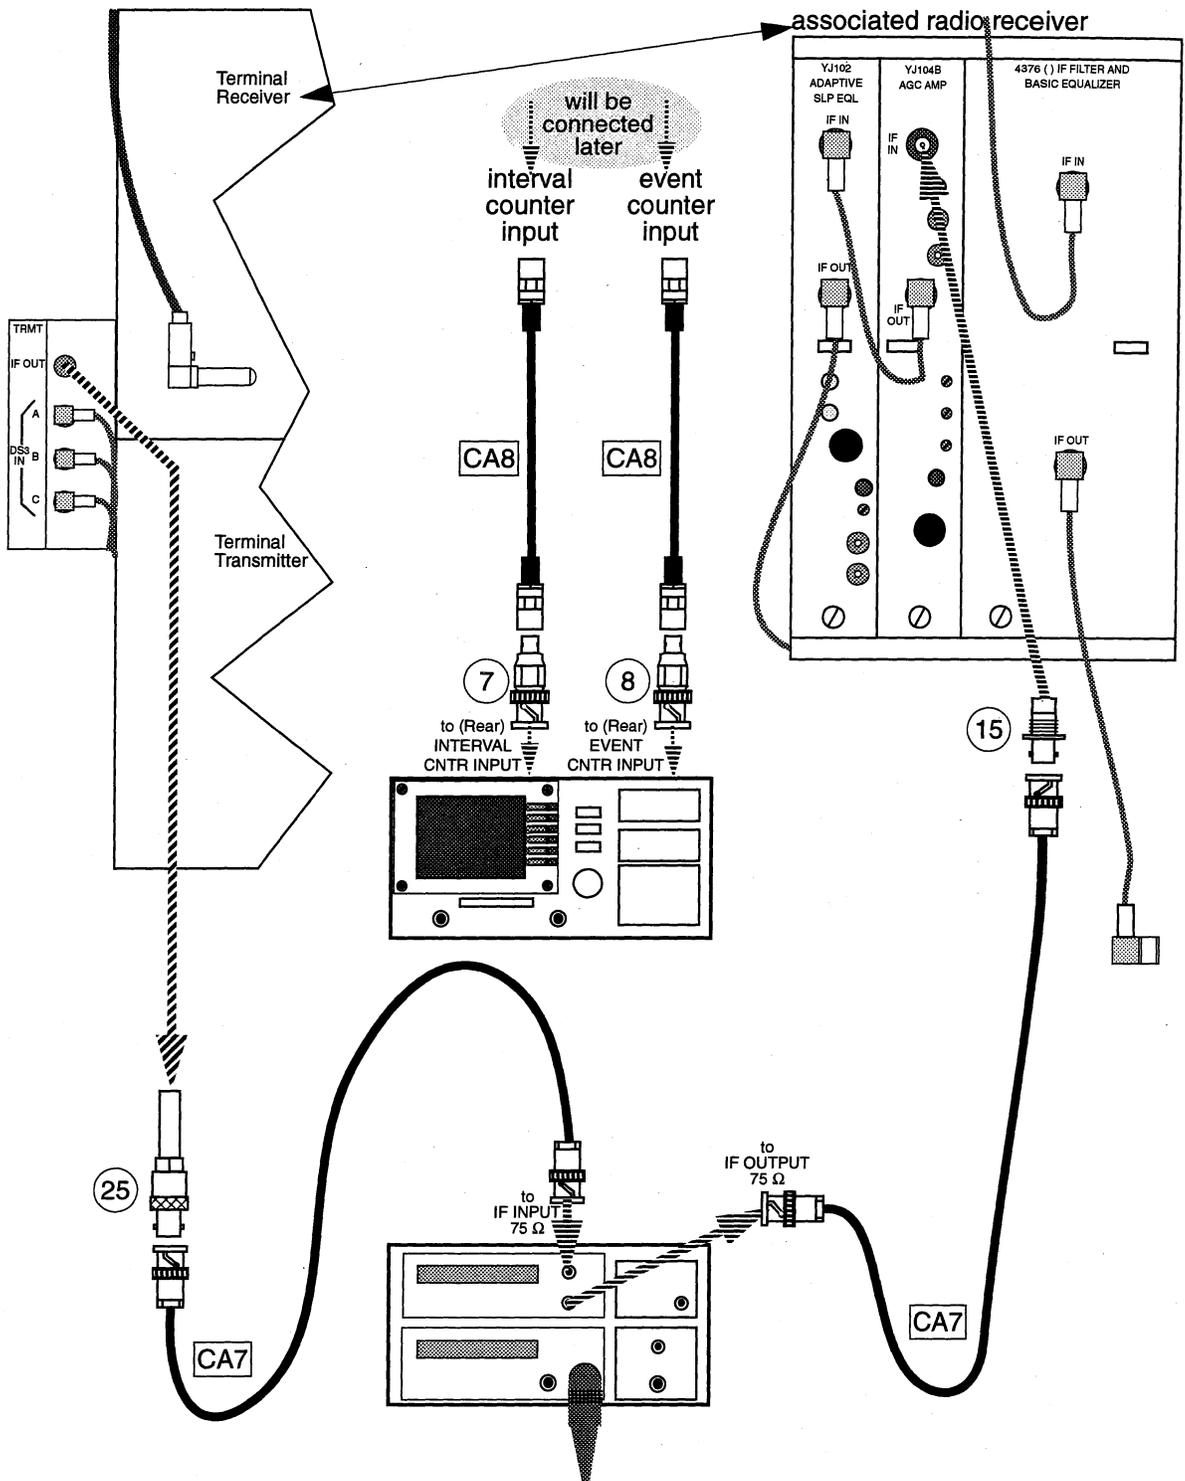
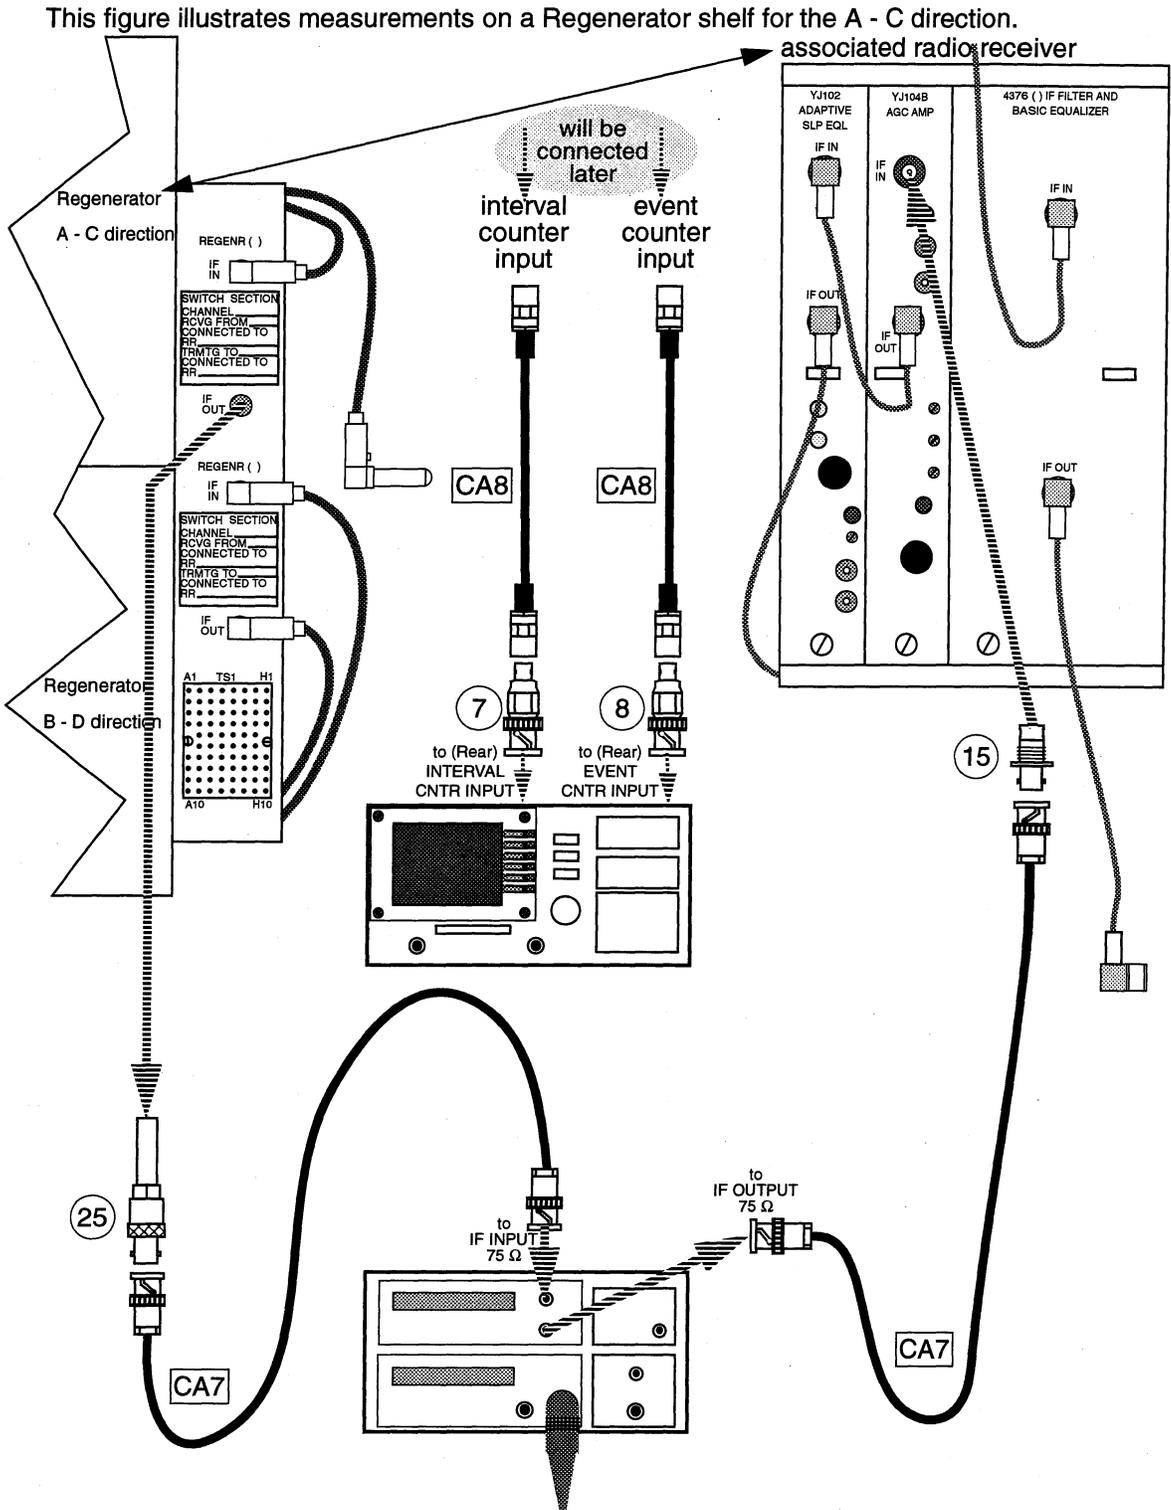

Figure 14. Terminal Loopback Propagation Distortion
Figure 15. Regenerator Loopback Propagation Distortion
- 5 Connect the test equipment as shown in Figure 14 (Terminal) or Figure 15 (Regenerator).
*Comment: In Figure 15 the Regenerator A - C direction is illustrated. The lower jacks are for the B - D direction.*
- NO - Recheck the test connections of Figure 14 or 15.